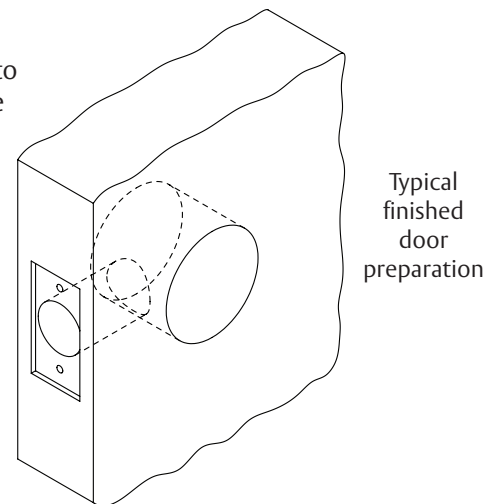

Figure 2
- Drill pilot holes for two attaching screws, and then mortise door edge 5/32" (4 mm) deep for deadbolt front. (Figure 2)